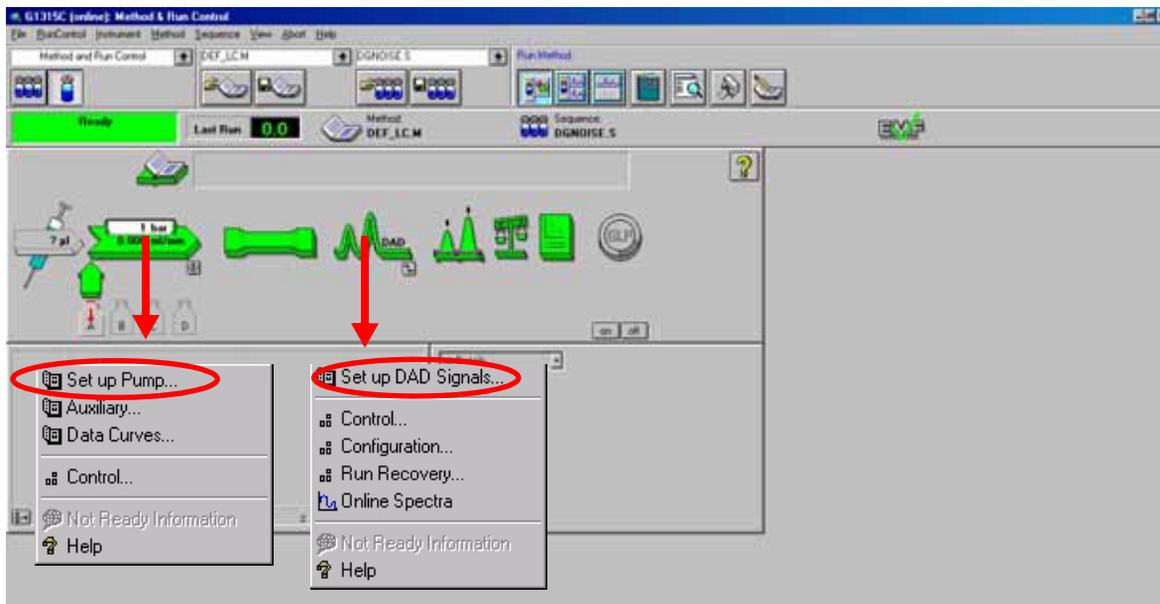
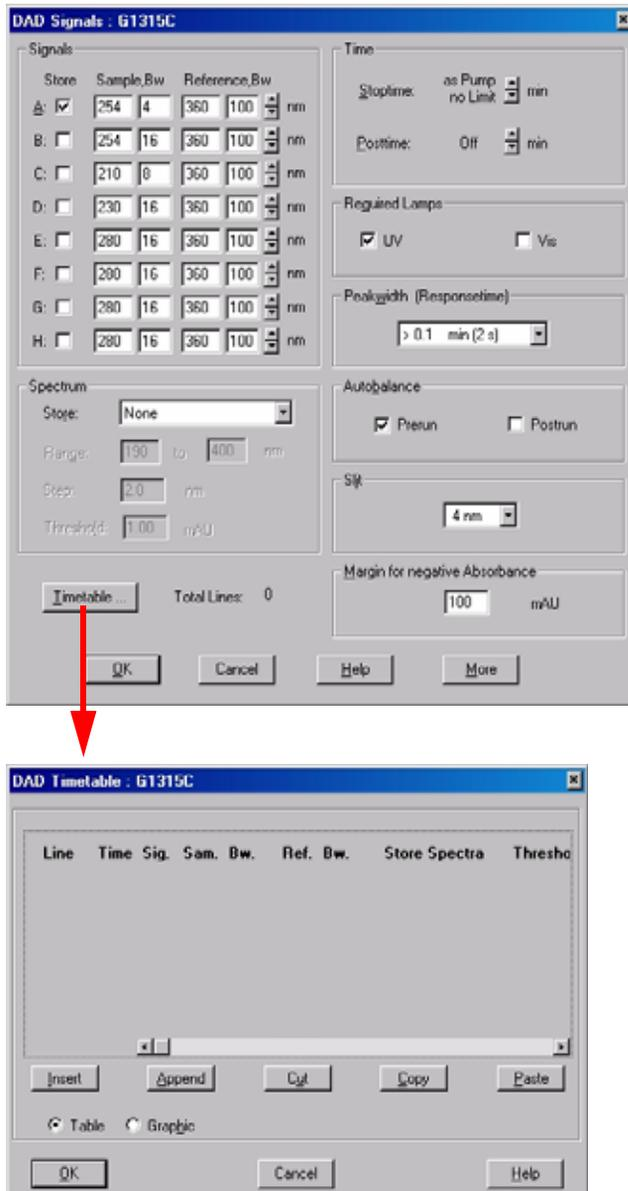

Figure 36 Open the module menu
Figure 37 Detector parameter (default)
- Click on the module icons (Figure 36) and open the *Setup* of these modules. Figure 37 on page 68 shows the detector settings (do not change the detector parameters at this time).